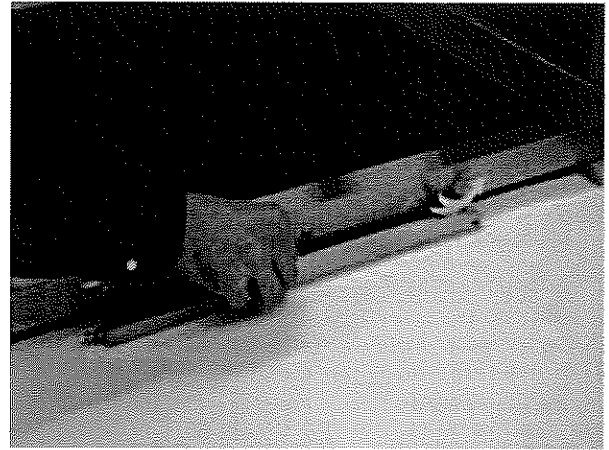

Figure 8-8. Take Slide Bars
10. Reinstall new door into place (see Figures 8-8, 8-9, and 8-10). Climb a stepladder to align door side rods into sliding guides.